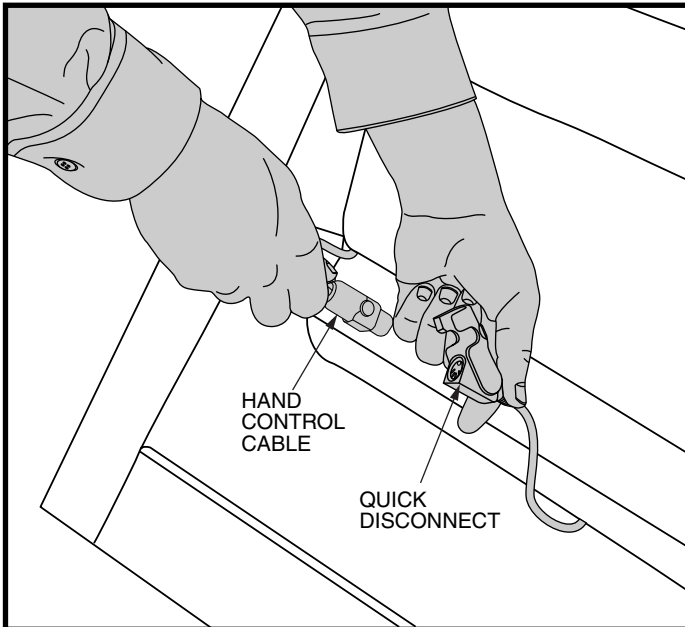

Figure 3. Disconnecting/Connecting the Hand Control
6. Disconnect the hand control cable from the quick disconnect on the hand control extension cable. **See figure 3.**
14. Attach the hand control cable to the quick disconnect on the hand control extension cable. **See figure 3.**